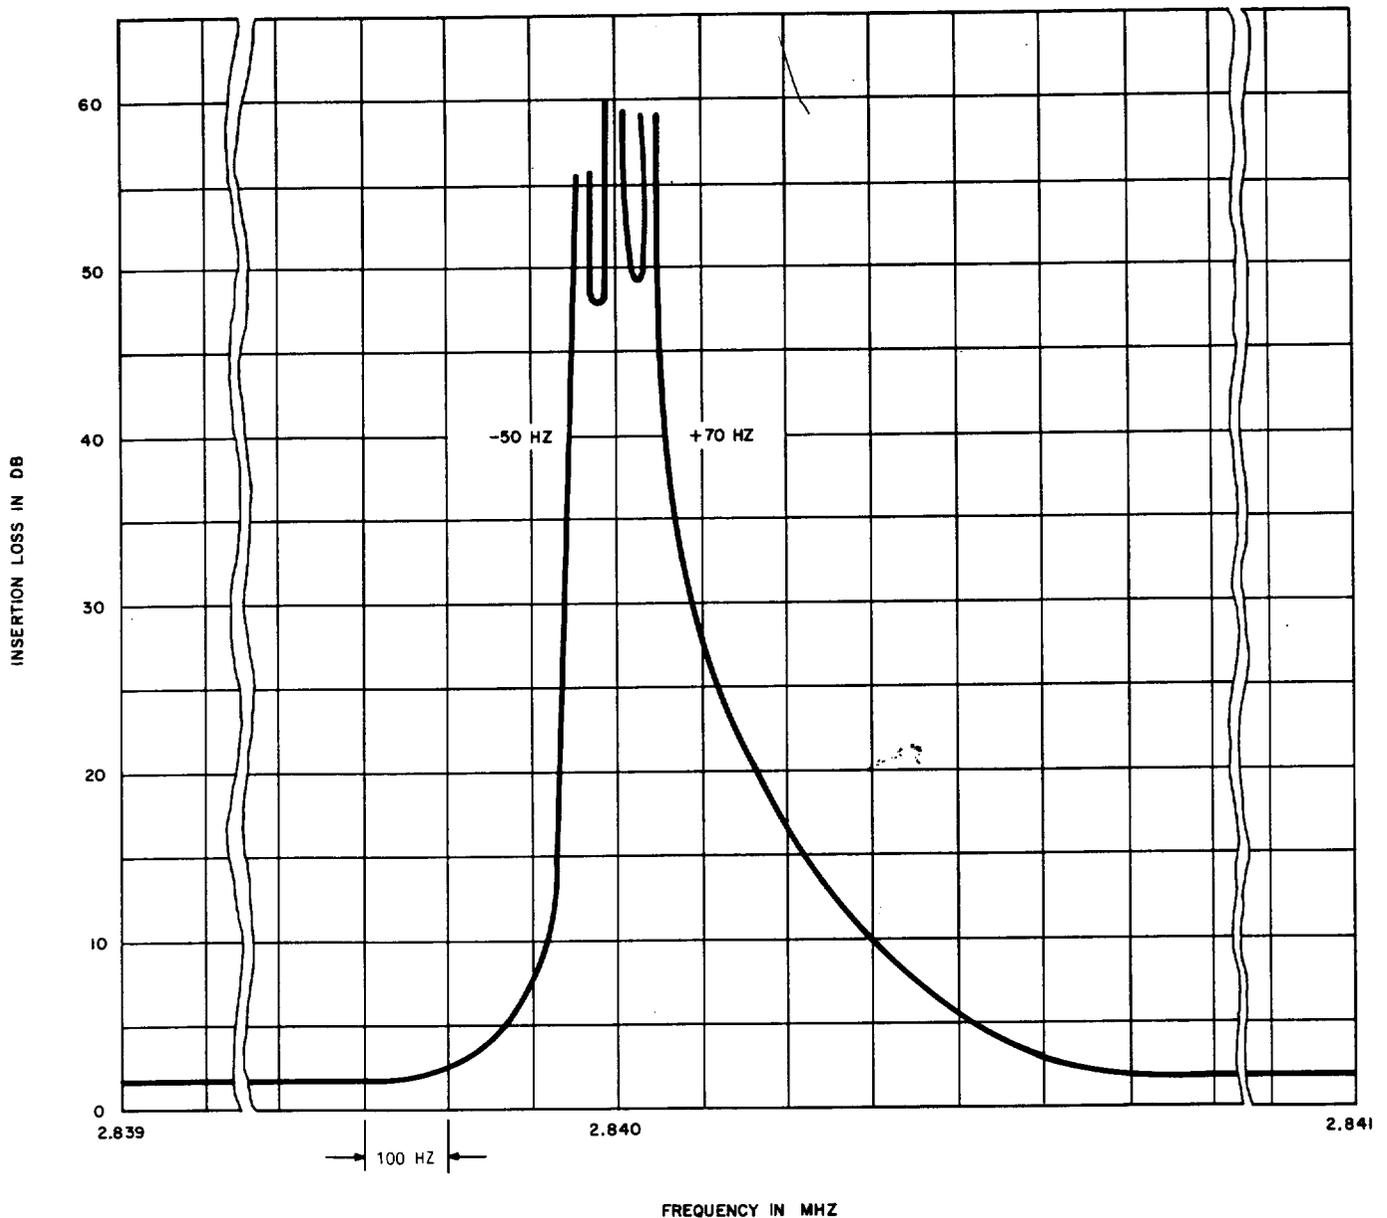

Fig. 4—761A Band-Elimination Filter—Insertion Loss Characteristic
**3.05** The 761A band-elimination filter removes the incoming 2.840-MHz mastergroup pilot to prevent interaction with the pilot inserted in the transmitting MMX-2 terminal. A typical insertion loss characteristic for the 761A band-elimination filter is illustrated in Fig. 4. The filter provides